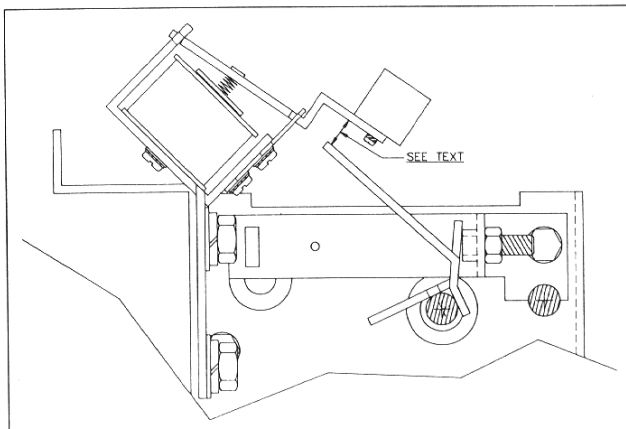

Figure 3. Trip Lever Gap Adjustment
- Measure and record the height of the opening springs (b, Figure 3, IB-60010).
The closing coil is located in the lower front center of the circuit breaker. See Figure 3, Page 4 of IB-60010. To replace it:
This assembly is located in the center part of the mechanism area, just to the left of the main closing spring. See Figure 3, Page 4 of IB60010. To replace it:
- f. Check the time interval from energization of the trip coil (at nominal control voltage) to the parting of the main contacts of the circuit breaker. This time must be within 40 to 55 milliseconds. If necessary, bend the trip lever slightly to achieve this setting. See Figure 3.